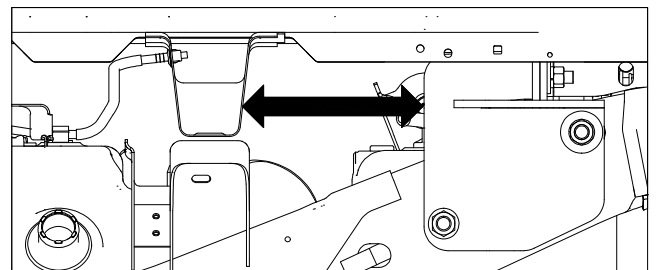

Figure I1.
- Square the hitch.** With a tape measure, check the distance between the Turnoverball hitch and the nearest bed cross member. The distance between the hitch and the cross member should be consistent on the driver side and the passenger side of the hitch, see Figure I1.